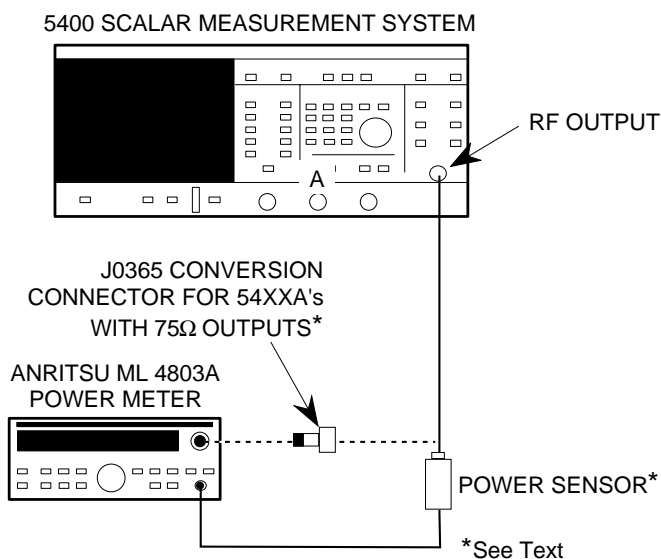

Figure 6-3. Equipment Setup for ALC Pre-Adjustment Procedure
- Power Meter, with suitable matching power sensor (Figure 6-3)
- Step 4** For all models except 5436A: Connect a MA4701A power sensor to the Anritsu ML4803A power meter (Figure 6-3). For model 5436A, use a MA4703A power sensor. Perform a calibration as instructed in the power meter operation and service manual.
- Step 6** Connect the power meter sensor to the 54XXA RF OUTPUT connector (Figure 6-3). Press the 54XXA RF ON/OFF key to OFF. Zero the power meter, and then press RF ON/OFF key to ON.
- Step 5** For units equipped with 75 Ω RF outputs: connect a MA4603A power sensor along with a J0365 Conversion Connector to the Anritsu ML4803A power meter (see Figure 6-3 on page 6-12).